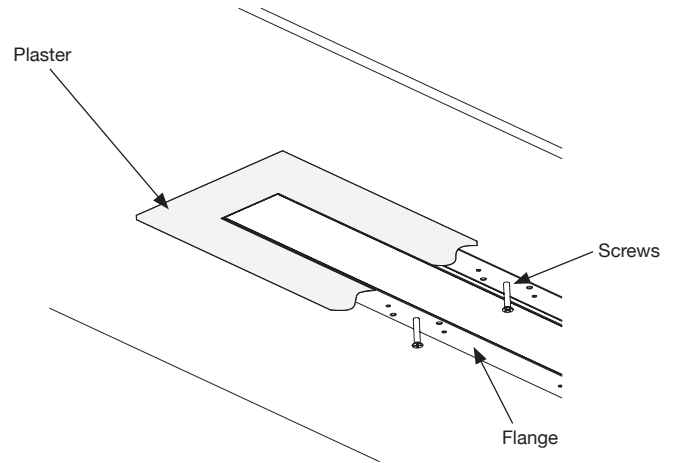

Fig. 2
4. Fit the fixture into the pre-cut drywall ceiling space and secure to the surface by driving applicable screws through the holes in the flange and into the drywall (Fig. 2).